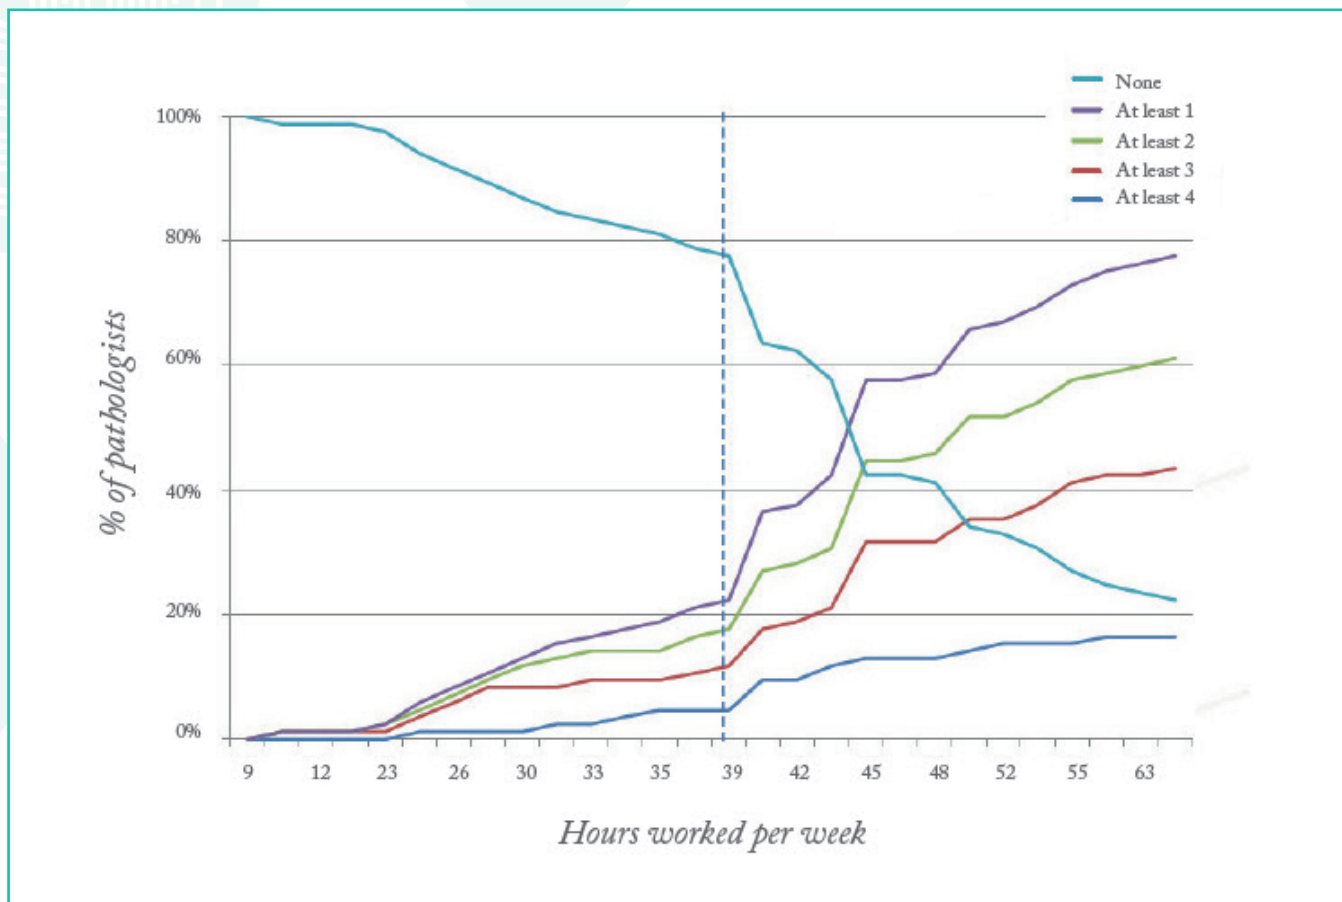

Figure 1. The percentage of pathologists experiencing adverse events increases significantly with a workload greater than 39 hours per week.
Although there are no good double-blind studies for pathologists, plenty of studies in other medical disciplines and occupations have shown that fatigue is detrimental to job performance and results in increased errors. This is borne out by one of the best studies regarding pathologists (6), which discovered that adverse events – defined as increased turnaround time, quality compromises, patient care compromises, or damage to pathologist wellbeing – increase exponentially when we work more than 39 hours per week (see Figure 1).